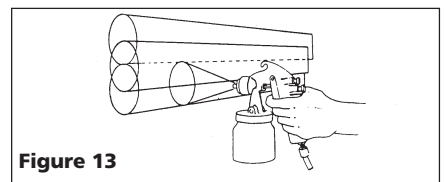

Figure 13
4. Overlap strokes just enough to obtain an even coat (See Figure 13). **NOTE:** Two thin coats of paint will yield better results and have less chance of runs than one heavy layer.